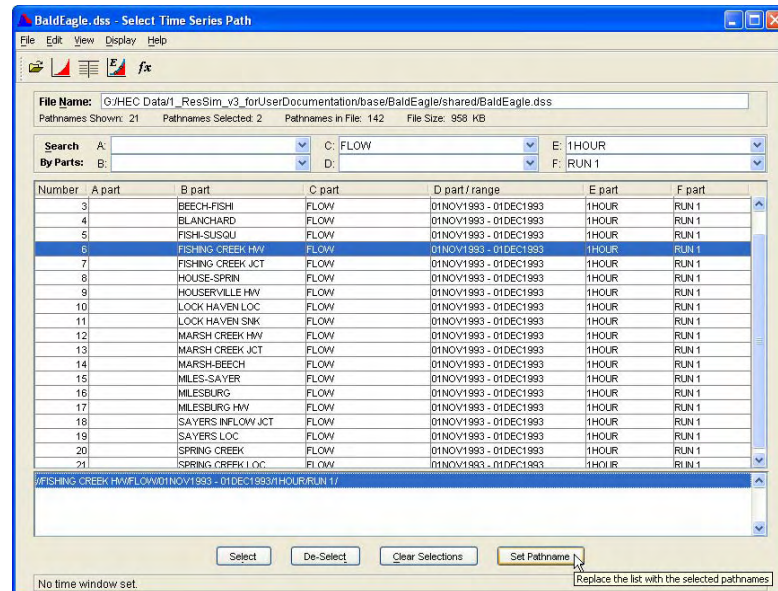

Figure 13.8 Select Time-Series Path
- Each row in the Time-Series table is a local flow location (specified in the Local Flow tab within the Junction editor in the Reservoir Network module), an element/parameter you have defined on the Lookback tab as Time Series, or a Time Series that is referenced in the Operation rules. Select each row, one at a time, and click the **Select DSS Path** button to access the **Select Time-Series Path** dialog box (Figure 13.8).
6. Select a record by double clicking on its name in the list. The selected pathname will appear in the box on the bottom of the Select Time-Series Path dialog box (as previously shown in Figure 13.8). You can also highlight a pathname in the list and click the **Select** button. Until you click on a pathname, the **Select** button remains inactive.